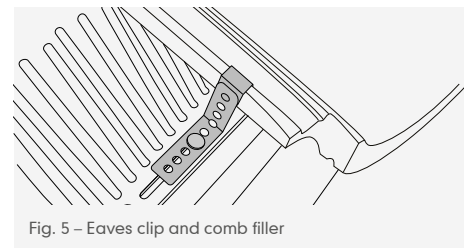

Fig. 5 – Eaves clip and comb filler
- 3 A comb filler strip should be fitted above the fascia/tilting fillet/eaves vent strip to prevent the ingress of birds or vermin (Fig. 5).